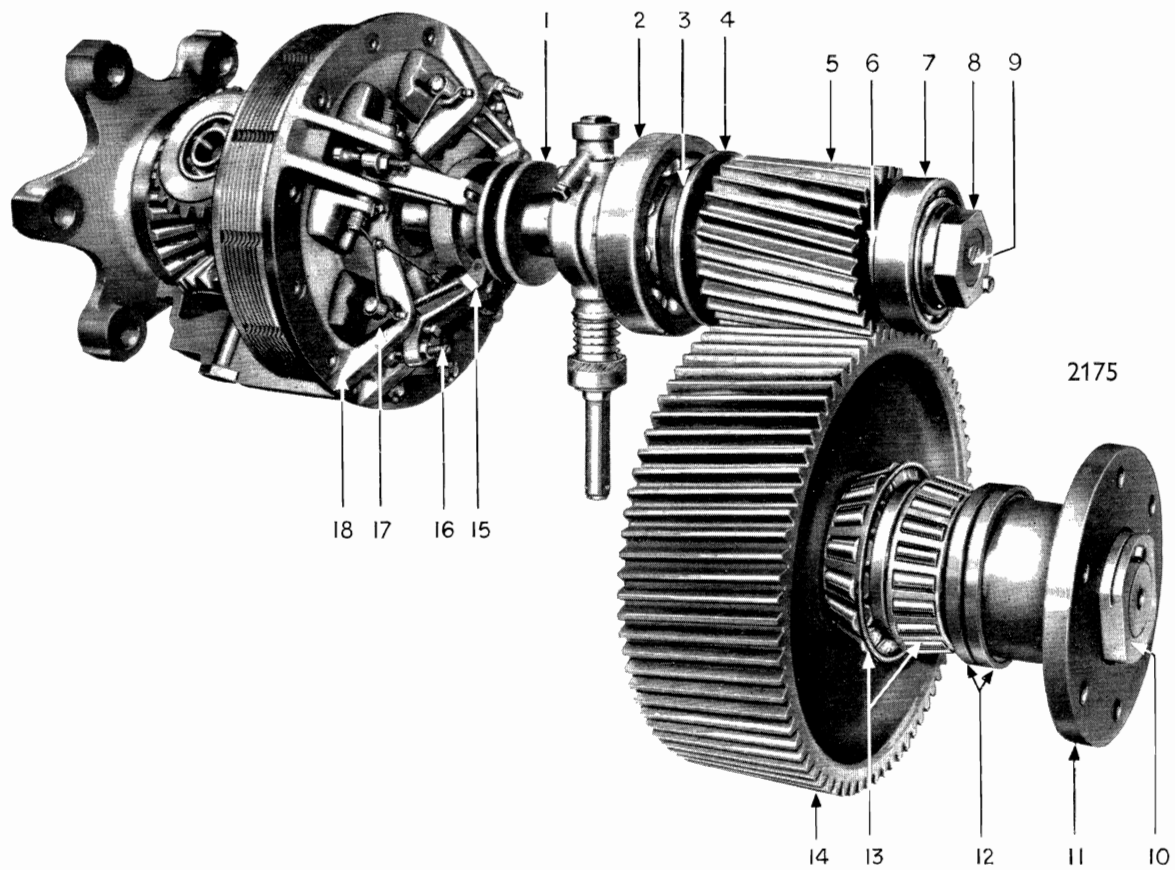

Fig. 7
If, for any reason, the blanking plugs at either end of the mainshaft have been removed, care must be taken to ensure an oil tight seal when the plugs are replaced. Examine the shoulders for signs of damage and remove any particles of dirt which might impair their seating: a leaking plug, item 9 Fig. 7, can cause dilution of the gear oil with engine oil by transfer of oil from the main shaft pump system.